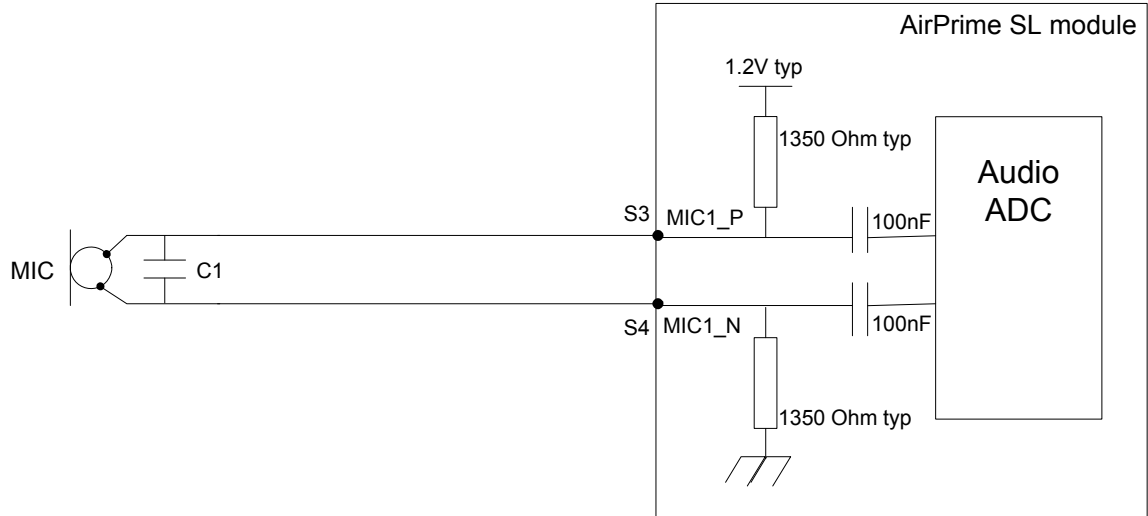

Figure 4-5: Example—MIC differential connection without an LC filter (TBD)
- If no filter is used, capacitors must be removed and the coil replaced by 0Ω resistors as shown in Figure 4-5 on page 55.